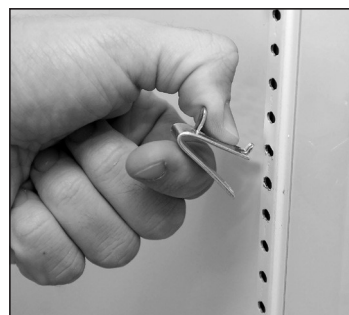

Fig. 1. Installing top tab of shelf clip.
1. Hook the shelf clips into the shelf standards. See fig. 1.